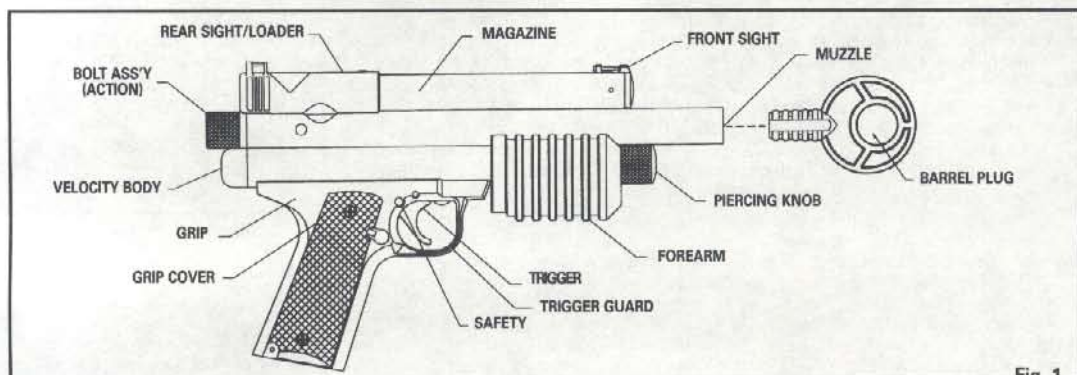

Fig. 1
- Insert barrel plug into the muzzle where indicated in Fig. 1.
- Make sure the barrel plug is inserted into the muzzle where indicated in Fig. 1.